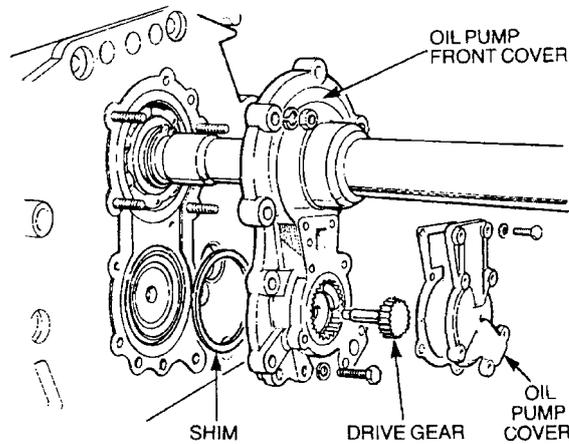

Figure 176 Installing the Oil Pump Front Cover
- tt.** Ensuring that the selected shim (sub-para o to t) is installed on the countershaft front bearing, fit the oil pump front cover and a new gasket (Figure 176). Install the oil pump front cover new retaining lock-washers, nuts and bolts but do not tighten them at this stage.